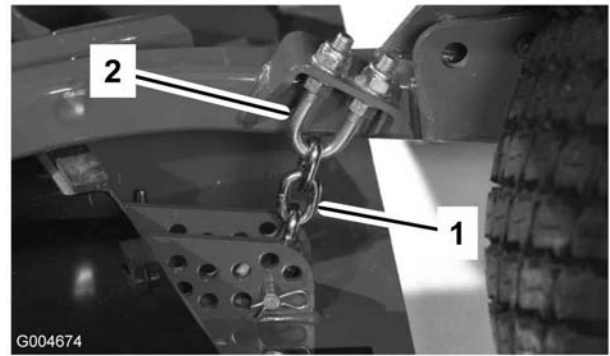

Figure 75
1. Loosen the jam nuts on the top or bottom of the height-of-cut chain U-bolt (Figure 75).